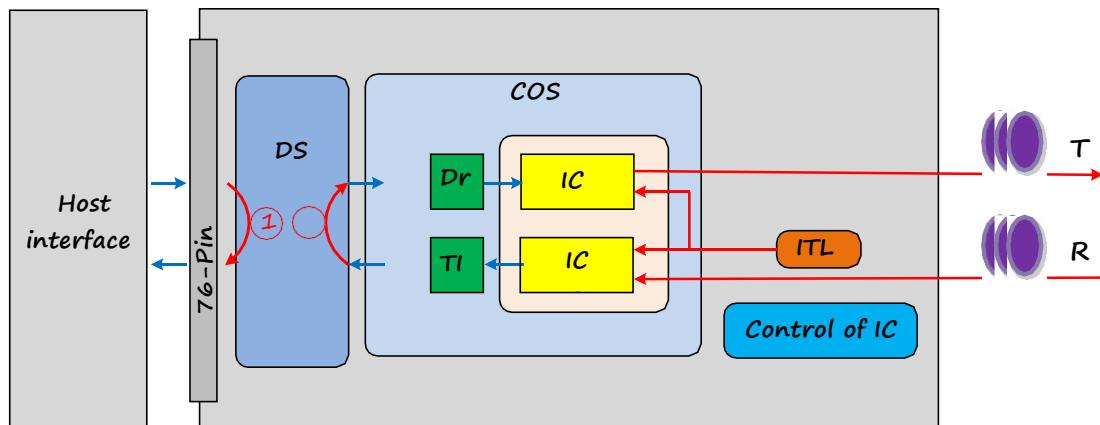

Figure 2: Module Loopback Orientation
The module support loopback functionality. The host loopback (Loopback ①) and the network loopback (Loopback ②) are shown at bellowing figure 2. For details on controlling the loopback mode, please refer to